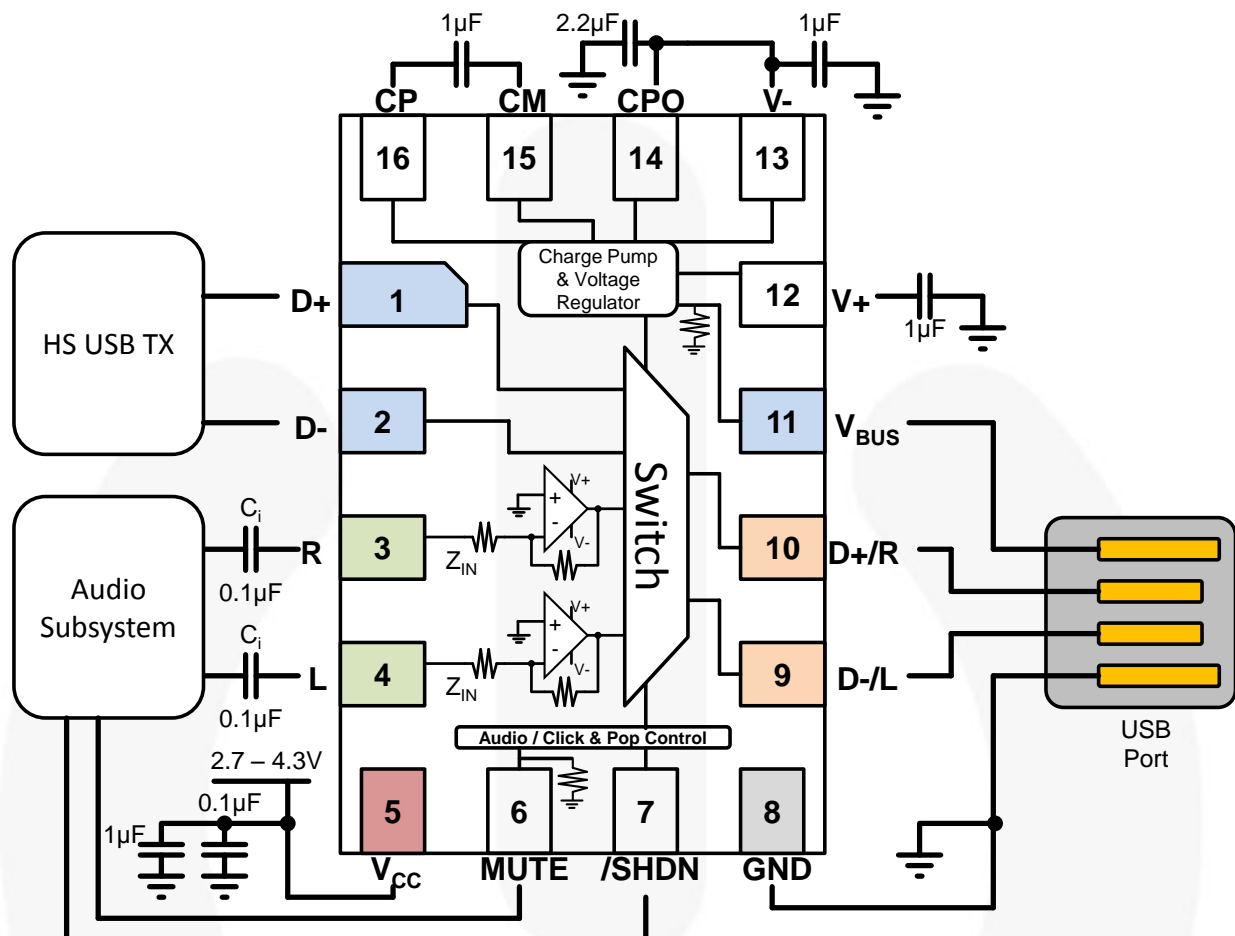

Figure 4. Micro-USB Application
- **PIN 15, 16** - The charge pump has been optimized for low-ESR ceramic capacitors for the flying capacitor between CP and CM, along with the output capacitors on V+, CPO, and V-. Optimized values for these capacitors are in Figure 4.